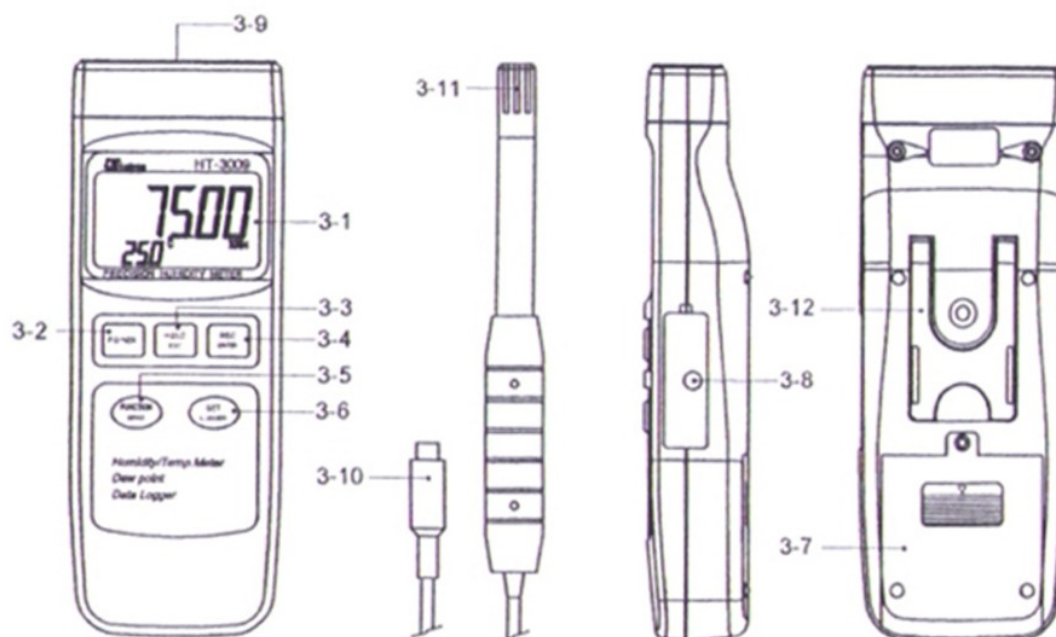

Fig. 1
- 1) Plug the " Probe Plug " (3-10, Fig. 1) into the " Probe Input Socket " (3-9, Fig. 1).
- 2) Power on the meter by pressing the " Power Button " (3-2, Fig. 1), the LCD shows the unit " %RH " & " °C " at the same time and measured value will show on the display (upper display is Humidity value, the lower display is the temperature value).
The procedures of " Dew point measurement " are same as the above " 4-1 Humidity and Temperature measurement " except select the " Dew point " function by pressing the " Function Button " (3-5, Fig. 1) once, the LCD will show the unit " DEW " & " °C (or °F). The upper display show the Dew point value, the lower display show the temperature value.
During the measurement, press the " Hold Button " (3-3, Fig. 1) once will hold the measured value & the LCD will display a " HOLD " symbol.
- * The data record function records the maximum and minimum readings. Press the " REC Button " (3-4, Fig. 1) once to start the Data Record function and there will be a " REC. " symbol on the display.
- a) Press the " REC Button " (3-4, Fig. 1) once, the " REC. MAX. " symbol along with the maximum value will appear on the display.
If intend to delete the maximum value, just press the " Hold Button " (3-3, Fig. 1) once, then the display will show the " REC. " symbol only & execute the memory function continuously.
- b) Press the " REC Button " (3-4, Fig. 1) again, the " REC. MIN. " symbol along with the minimum value will appear on the display.
If intend to delete the minimum value, just press the " Hold Button " (3-3, Fig. 1) once, then the display will show the " REC. " symbol only & execute the memory function continuously.
a) Press the " REC Button " (3-4, Fig. 1) once to start the Data Record function and there will be a " REC. " symbol on the display.
Press the " Logger Button " (3-6, Fig. 1) once to start the Data Logger function. The upper display will show the sampling time in seconds (For example, 1, 2, 10, 30, 60, 600, 1800, 3600) once a while then revert to the normal display screen. In the same the top display will show the marker " A ", the marker " A " will be flashed per sampling time. Now the Data Logger function is executed.
Press the " Logger Button " (3-6, Fig. 1) once will save the data one time into the memory, at the same time the the marker " A " will be flashed once a while.
If Press the " Logger Button " (3-6, Fig. 1) once, both the mark " A ", upper display and lower display are flashed, it indicate the memory data already over 1000 no. and the memory is full.
c) During the Data Logger function is executed, press the " Logger Button " (3-6, Fig. 1) once will stop to execute the data logger function, the mark " A " will disappeared. If press the " Logger Button " (3-6, Fig. 1) once again will continuous the Data Logger function.
- a. Hold the " Set Button " (3-6, Fig. 1) at least two seconds until the lower display show " COde ", then release the " Set Button ", the upper display will show " 1000 ".
- * 1000 is the password code that allow to execute the Advanced Measuring Procedure following.After display show " COde 1000 ", push the " Enter Button " (3-4, Fig. 1) once will go to the following b. procedures.
- * If push the " ESC Button " (3-3, Fig. 1) will escape the selecting function and retun to the normal measuring display.
- b. One by one to press the " Set Button " (3-6, Fig. 1) once a while to select the five main function that show on the lower display as :
Use the " Set Button " to select the main function to " °F ", then one by one to press the " Function Button " (3-5, Fig. 1) a while will determine the default Temp. unit to °C or °F
After the function is determined, press the " Enter Button " (3-4, Fig. 1) to confirm and save the selection data into memory IC permanently. Press the " Esc Button " (3-3. Fig. 1) will revert to normal display screen.
Use the " Set Button " to select the main function to " SEC ", (SECOND) then one by one to press the " Function Button " (3-5, Fig. 1) a while will determine the default Data Logger sampling time value (seconds).
After the function is determined, press the " Enter Button " (3–4, Fig. 1) to confirm save the selection data into memory IC permanently. Press the " Esc Button " (3–3. Fig. 1) will revert to normal display screen.
Use the " Set Button " to select the main function to " Cnt " (count), then the upper display will show the balance data numbers that exist into the memory (allow memorize data no.). Press the " Esc Button " (3–3. Fig. 1) will revert to normal display screen.
2) Press the " Function Button " (3-5, Fig. 1) once, the upper display will show " 0 ", if intend to clear the existing saving data from the memory, just press the " Enter Button " (3-4, Fig. 1) to confirm, then the existing data will clear from the memory IC.
Before Press the " Function Button " (3-5, Fig. 1) to confirm, it can press the " Esc Button " (3-3, Fig. 1) to exist the clear function and the data will be not cleared.
Use the " Set Button " to select the main function to " OFF ", then one by one to press the " Function Button " (3-5, Fig. 1) a while will determine the default the power management system is Auto Power Off enable or disable.
After the function is determined, press the " Enter Button " (3-4, Fig. 1) to save the selection function into memory IC permanently. Press the " Esc Button " (3-3, Fig. 1) will revert to normal display screen.
- 2) Press the " Send Button " (3–5, Fig. 1) at least 2 seconds until the lower display show " 232 ", then release the button.
- 3) Push the " Send Button " (3–5, Fig. 1) once, then both the upper and the lower display will flash slowly, at the same the storage data logger data will be send out the meter from the " RS–232 Output Terminal " (3–8, Fig. 1).
The instrument has RS232 PC serial interface via a 3.5 mm terminal (3–8, Fig. 1).